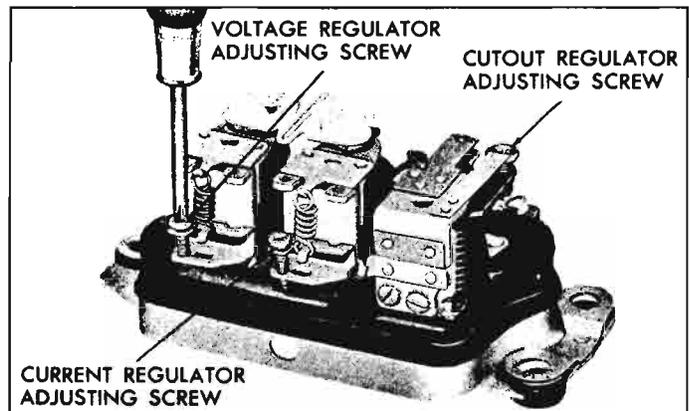

Fig. 8-7—Regulator Adjusting Screws
7. To adjust the voltage setting, remove the regulator cover and turn the adjusting screw (fig. 8-7).
6. To adjust the current setting, turn current regulator adjusting screw shown in the middle unit of Figure 8-7 clockwise to increase current setting or counterclockwise to decrease the setting. See caution note under *Voltage Regulator Setting*.